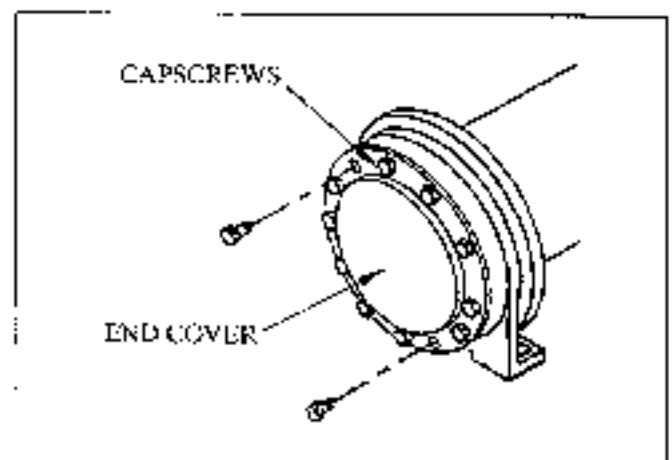

Figure 14
- (13) Remove the twelve capscrews and lift off cover. See Figure 14.